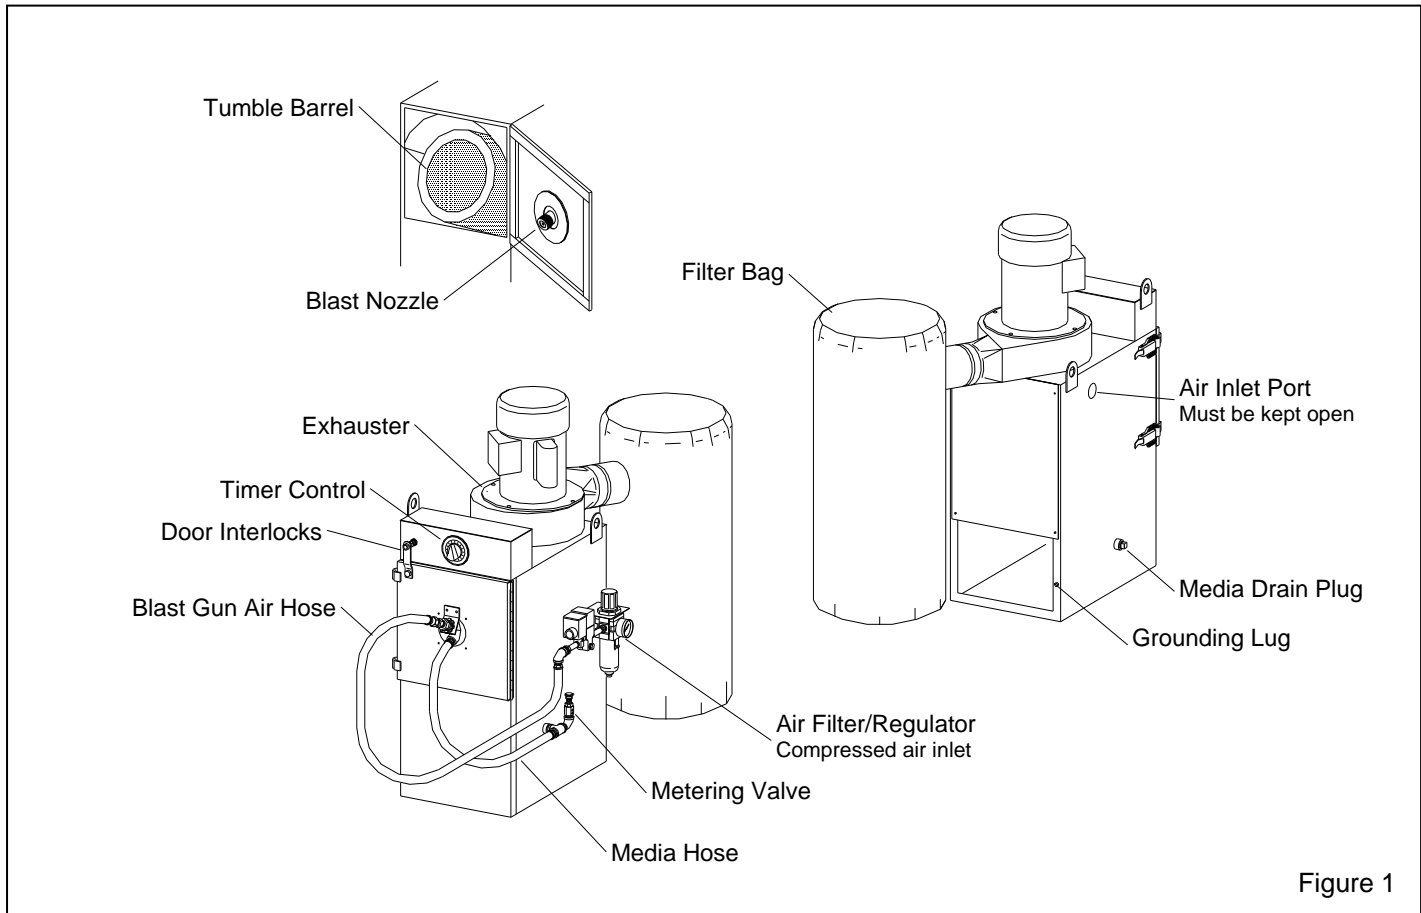

Figure 1
1.3.1 The DCM-161 tumble cabinet blasts small batches of parts, using a fixed nozzle and rotating barrel. See Figure 1 for arrangement and call outs of primary components.